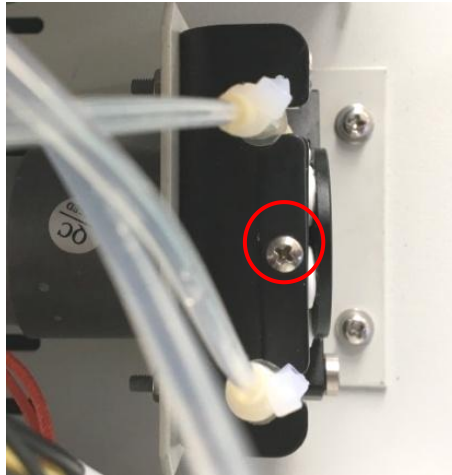

Fig.6.32
3)Open the right cover of instrument, unscrew and remove the fixing screw and cover plate(Fig. 6.32) .